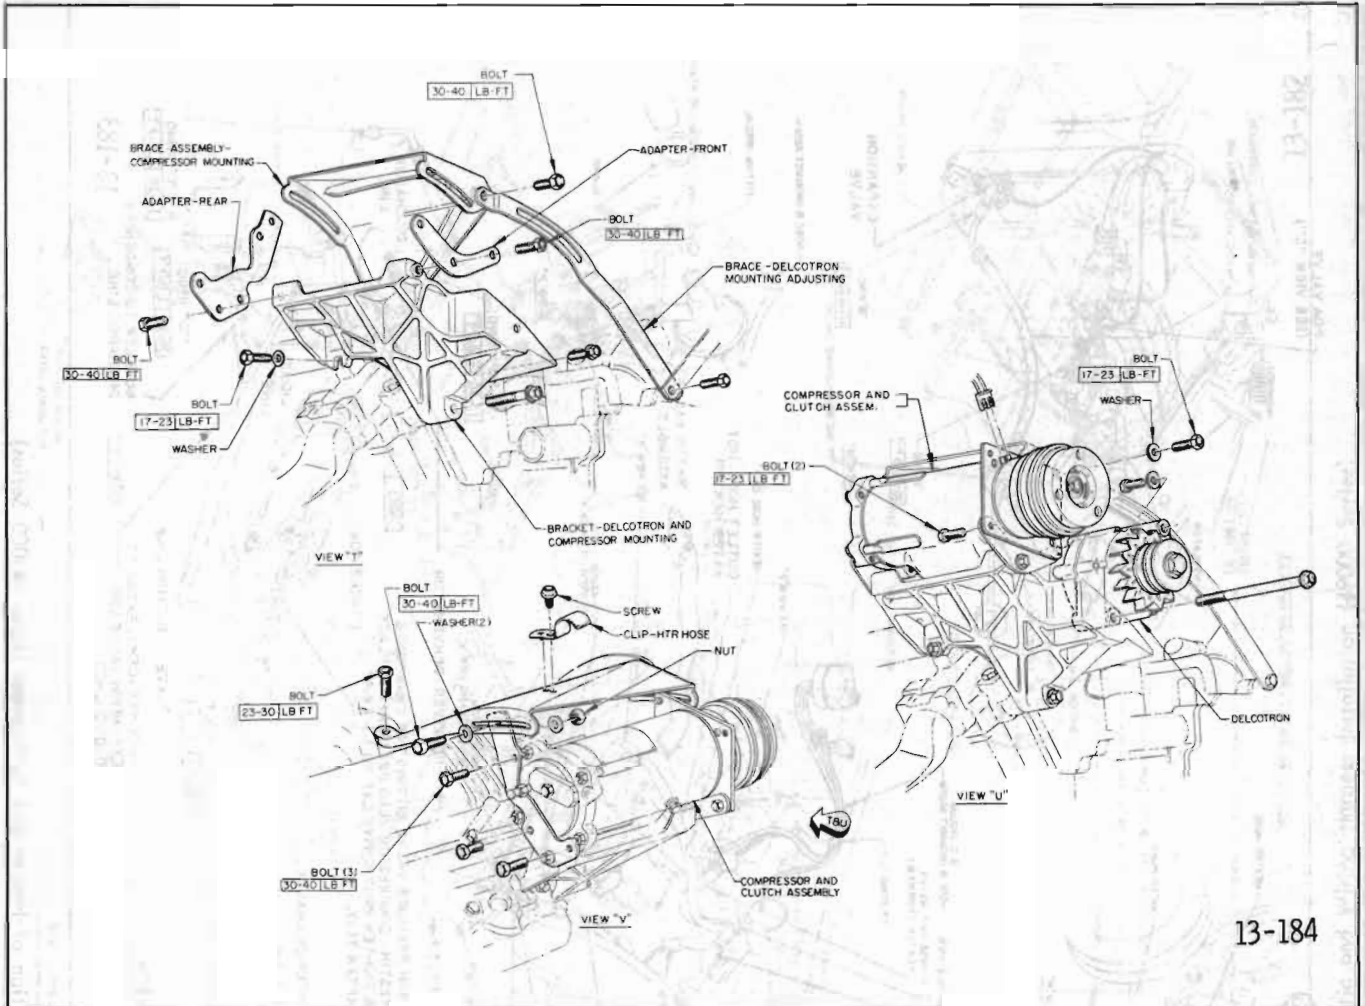

Figure 13-136—Installation of Compressor (49000 Series)
For compressor mounting bracket bolts see Figure 13-136
5. Remove 2 bolts from front and rear slots of compressor mounting brace (see Figure 13-136).